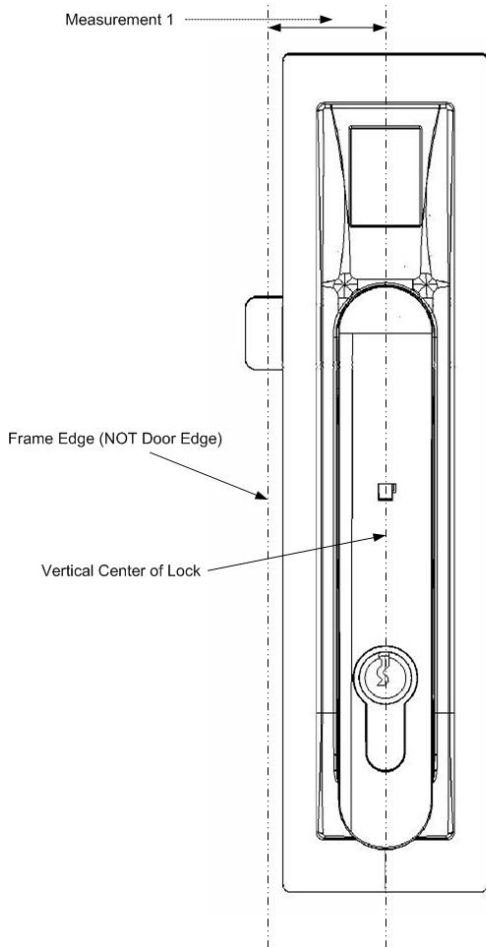
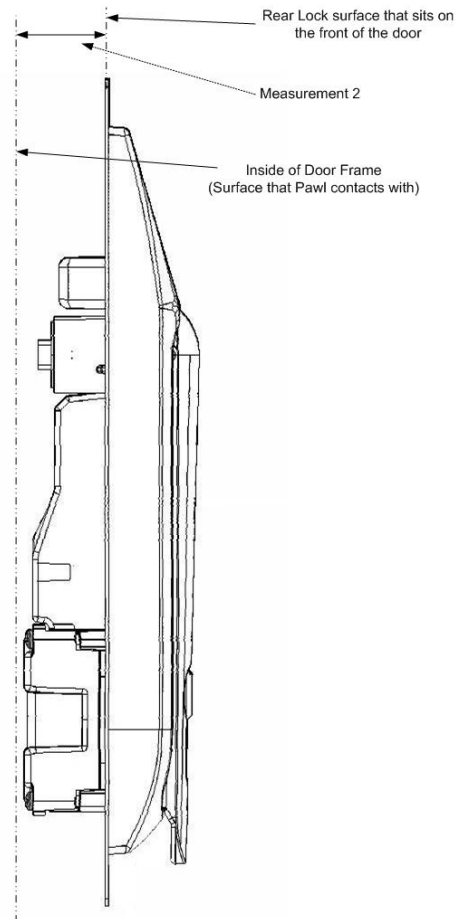

Figure 1
Figure 2
- Please obtain the measurements as show in Figure 1 and Figure 2 and contact our electromechanical lock support team as show below:
**Tel: (610) 459-4000**